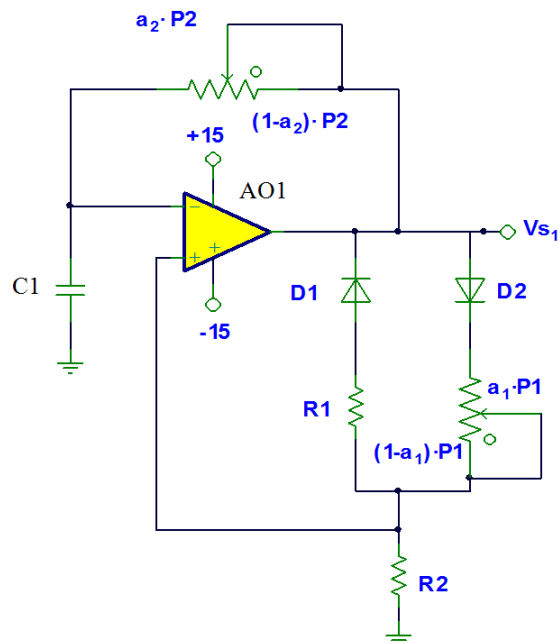
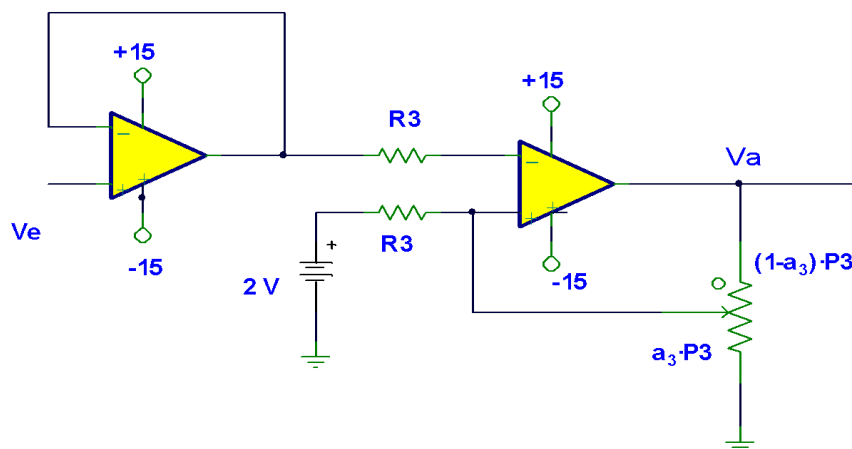
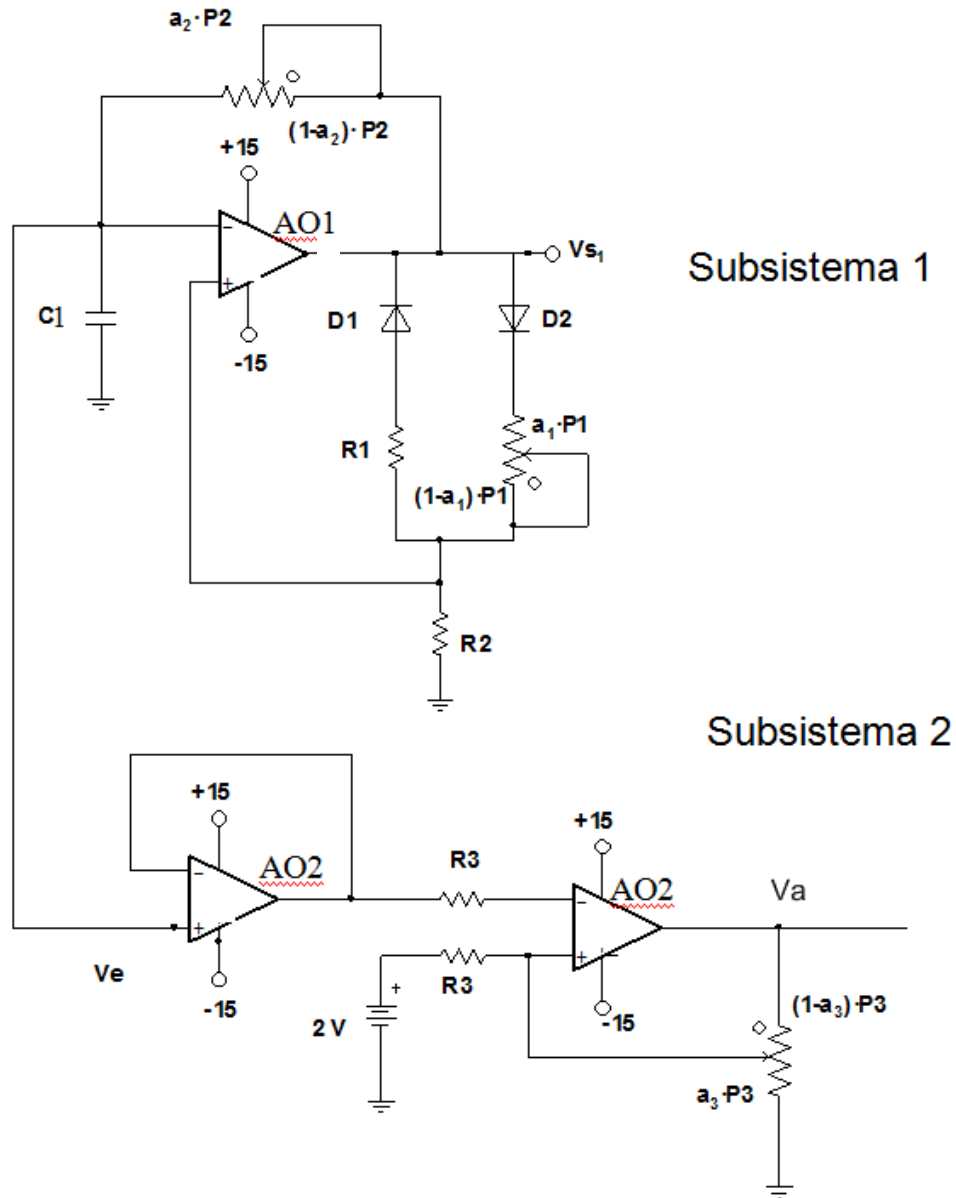

Figure 1. Astable Multivibrator
Figure 2. Comparator with hysteresis
Figure 3. Multivibrator + comparator
0.1 Analyze the circuit in Figure 1 and represent the temporal evolution of the voltage across the capacitor and the output voltage of the OA. Determine theoretically the expression of the period of oscillation of V_{s1} as a function of the value of the components. Consider the ideal diodes for analysis.
0.4 Analyze the circuit in Figure 2 assuming that $a_3 = 0.9$ and that $\pm V_{sat} = \pm 15$ V. Represent the transfer function of the circuit in detail. $R_3 = 10$ k Ω , $P_3 = 500$ k Ω .
- 0.5 The circuits of Figures 1 and 2 are connected as shown in Figure 3. If a V_{s1} is programmed with a duty cycle of 50% and a frequency of 1 kHz and $a_3 = 0.9$, represent as a function of time the input signal (V_e) to subsystem 2 and the comparator output signal (V_a). How can the duty cycle of V_a be regulated?
5. Assemble the circuit of Figure 1 and obtain an output signal V_{s1} with a duty cycle of 50% and a frequency of 1 kHz. Represent in full detail the temporal evolution of the signal V_{s1} and the voltage at the terminals of the capacitor C1.
6. Assemble the circuit of Figure 2 and connect it to the circuit of Figure 1 as shown in Figure 3. From the input voltage V_e set in part 1, regulate the potentiometer P3 to obtain a cycle of signal work V_a of about 50%.